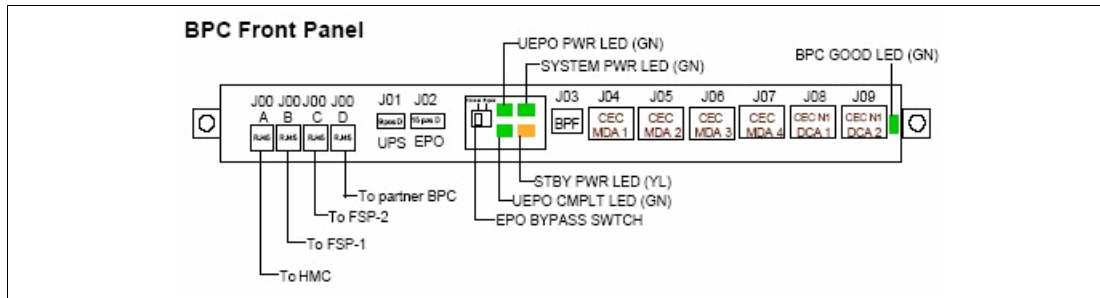
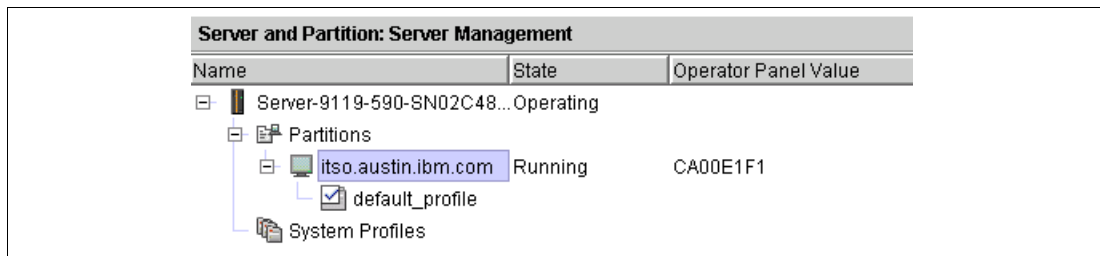

Figure 2-21 BPC front panel
Figure 2-22 Operating states as seen from the HMC
There is no physical operator panel on the p5-590 and p5-595. System status on earlier models could be determined, to some extent, by the operator panel LCD display. For the p5-590 and p5-595 it is necessary to refer to the BPC front panel (Figure 2-21 on page 51) or the HMC (Figure 2-22 on page 51).
a. See Figure 2-21 on page 51 for LED locations.
See Figure 2-21 on page 51 for more details.